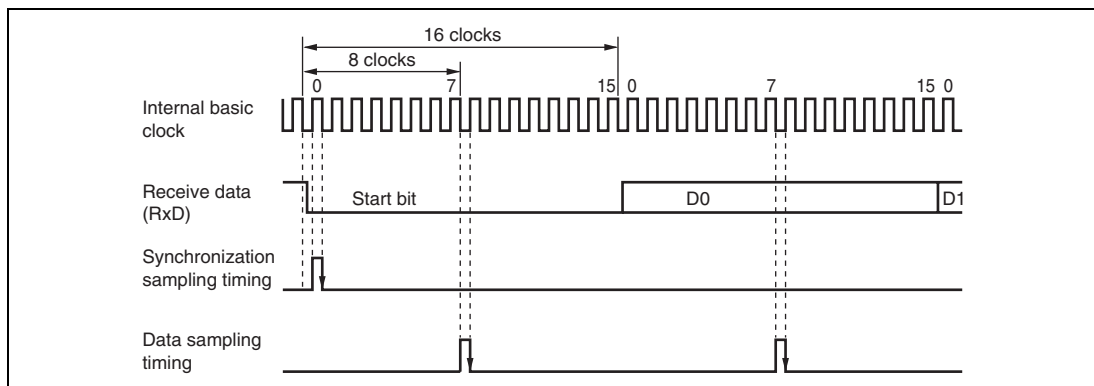

Figure 13.19 Receive Data Sampling Timing in Asynchronous Mode
In asynchronous mode, the SCI3 operates on a basic clock with a frequency of 16 times the transfer rate. In reception, the SCI3 samples the falling edge of the start bit using the basic clock, and performs internal synchronization. Receive data is latched internally at the rising edge of the 8th pulse of the basic clock as shown in figure 13.19. Thus, the reception margin in asynchronous mode is given by formula (1) below.